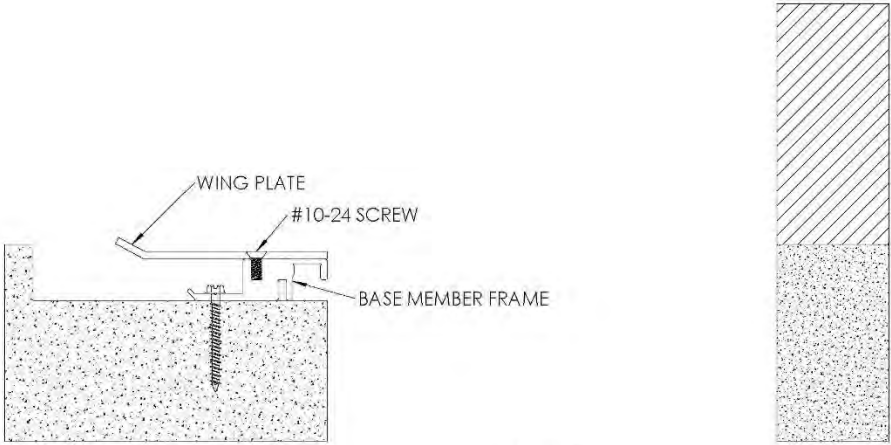

FIGURE 3
- 3. Reinstall the wing plate to the base member frame with the #10-24 screw. *Note: This step not necessary on the 2”, 4” and 6” sizes.* **See Figure 3**